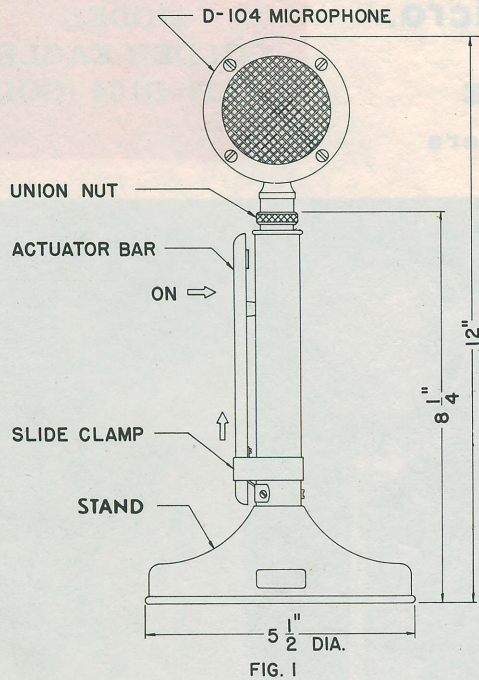
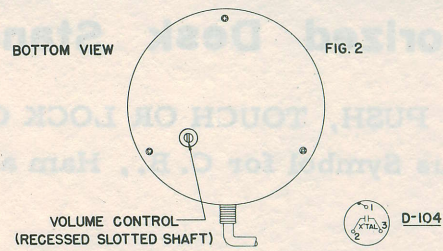

FIG. 1
FIG. 2
- SIZE: See Fig. 1.
2. The D-104 is one of a group of "Plug-In" microphones compatible with the "G" series of stands. It plugs into the top of the mast and is locked on by means of the union nut (See Fig. 1).
VOLUME CONTROL: Located in the base to eliminate accidental changes should be set at minimum gain - complete COUNTER CLOCKWISE position when viewed from bottom of stand. TURN "ON" the transmitter and squeeze the actuator bar in direction as noted in Fig. 1. Operating the actuator bar operates the transmit-receive circuits. While talking into the microphone at normal operating distance, slowly turn the volume control (Fig. 2) up until modulation is at desired level. Once properly set, the volume control should not require resetting under equivalent conditions.